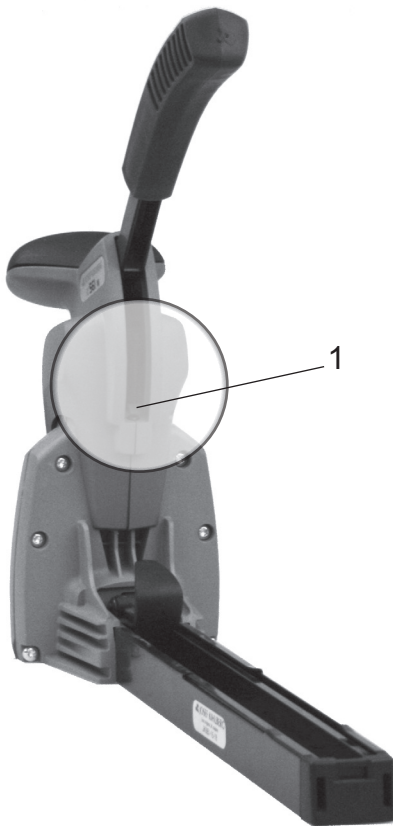

Fig. 5
- With a 3 mm Allen key turn the adjusting screw (Fig. 5/1). Turn clockwise for a stronger clinch. Turn the adjusting screw anti clock wise to open up the clinch more.